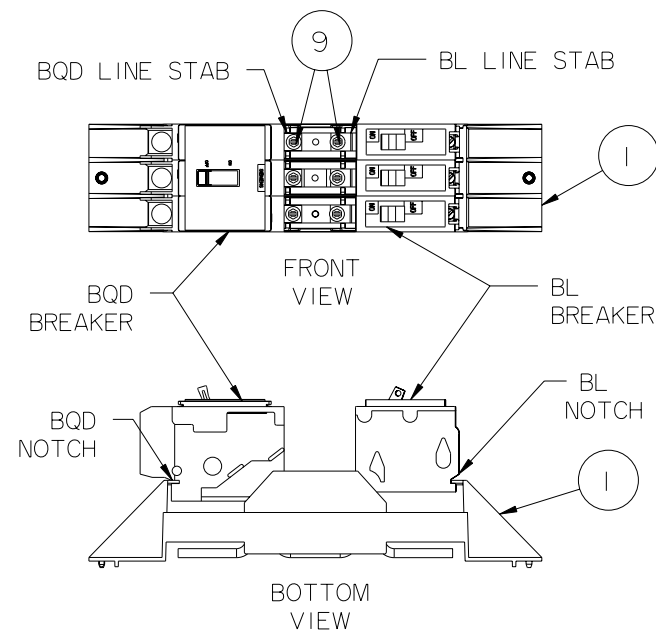

Figure 6
8. Refer to figure 6. - Position each branch breaker so that the mounting notch on the load side of its case engages a mounting tab on the breaker mounting barrier (item 1). Bring each breaker line stab into contact with its connector bus and align all breaker stab holes with the corresponding connector bus holes. Ensure that each breaker maintains engagement with the mounting barrier.
9. Fasten each breaker line stab to its connector using a 10-24 X 5/8" screw (item 9), and tighten to the torque value specified on the back of the dead front.